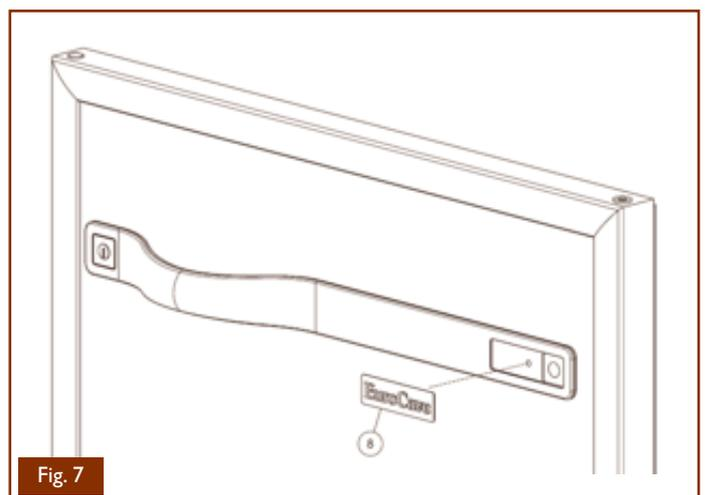

Fig. 7
- Stick on the self-adhesive "EuroCave" logo (8), see Fig.7 Remember to peel off the protective film covering the logo.